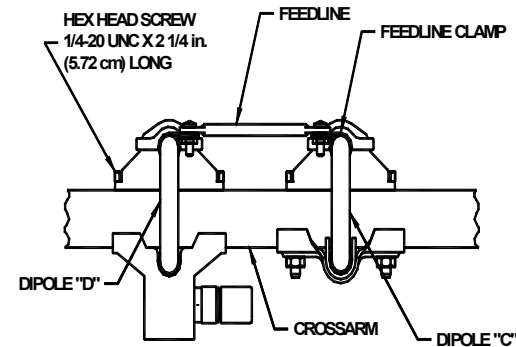

FIGURE 1
2. Next, starting with dipole "C" assemble dipole "C" and "D", to their marked locations on the crossarm as shown in Figure 1.. Use the 1/4-20 x 2 1/4" hex head screws.
1. Install 6 Clamping Bolts and Hex Nuts to the antenna base per Fig.1.